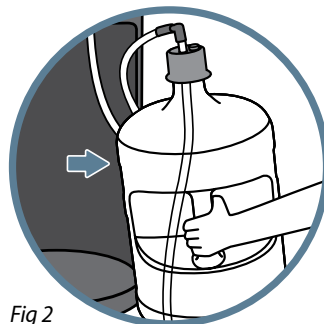

Fig 2
2. Remove the empty water bottle (Fig 2). Wipe interior cabinet with 70% rubbing alcohol or food surface quality disinfecting wipes.